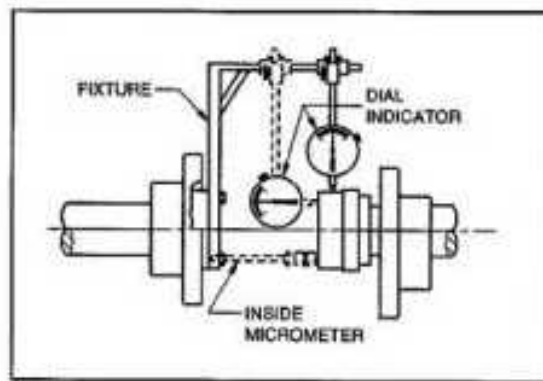

Figure 3. Testing alignment, dial indicator
- (1) Disconnect the coupling halves.
- (2) Set the coupling flange gap as required by the coupling manufacture.
- (3) The preferred test for parallel and angular alignment may be made with a dial indicator mounted as shown in Figure 3. Proceed as follows: